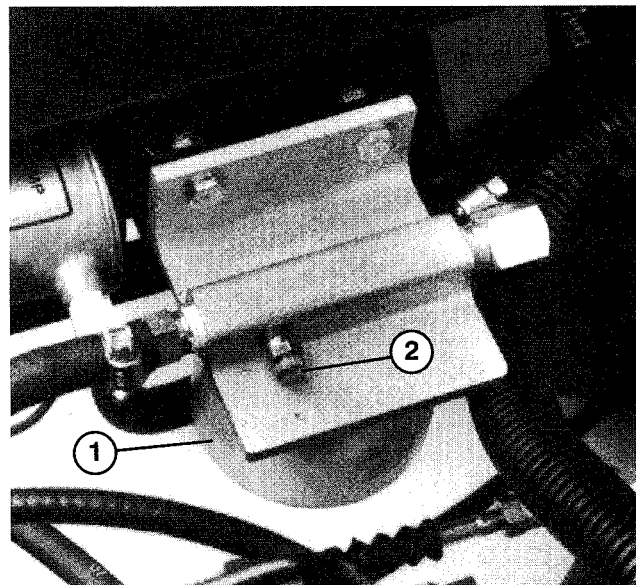

Figure 23
1. Loosen air bleed screw on top of fuel filter/water separator (Fig. 23).